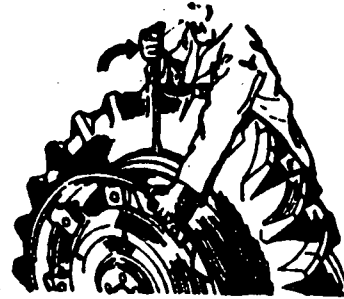

Fig. 6
- b) Place a tyre lever between the bead and the flange of the rim (Fig. 6).